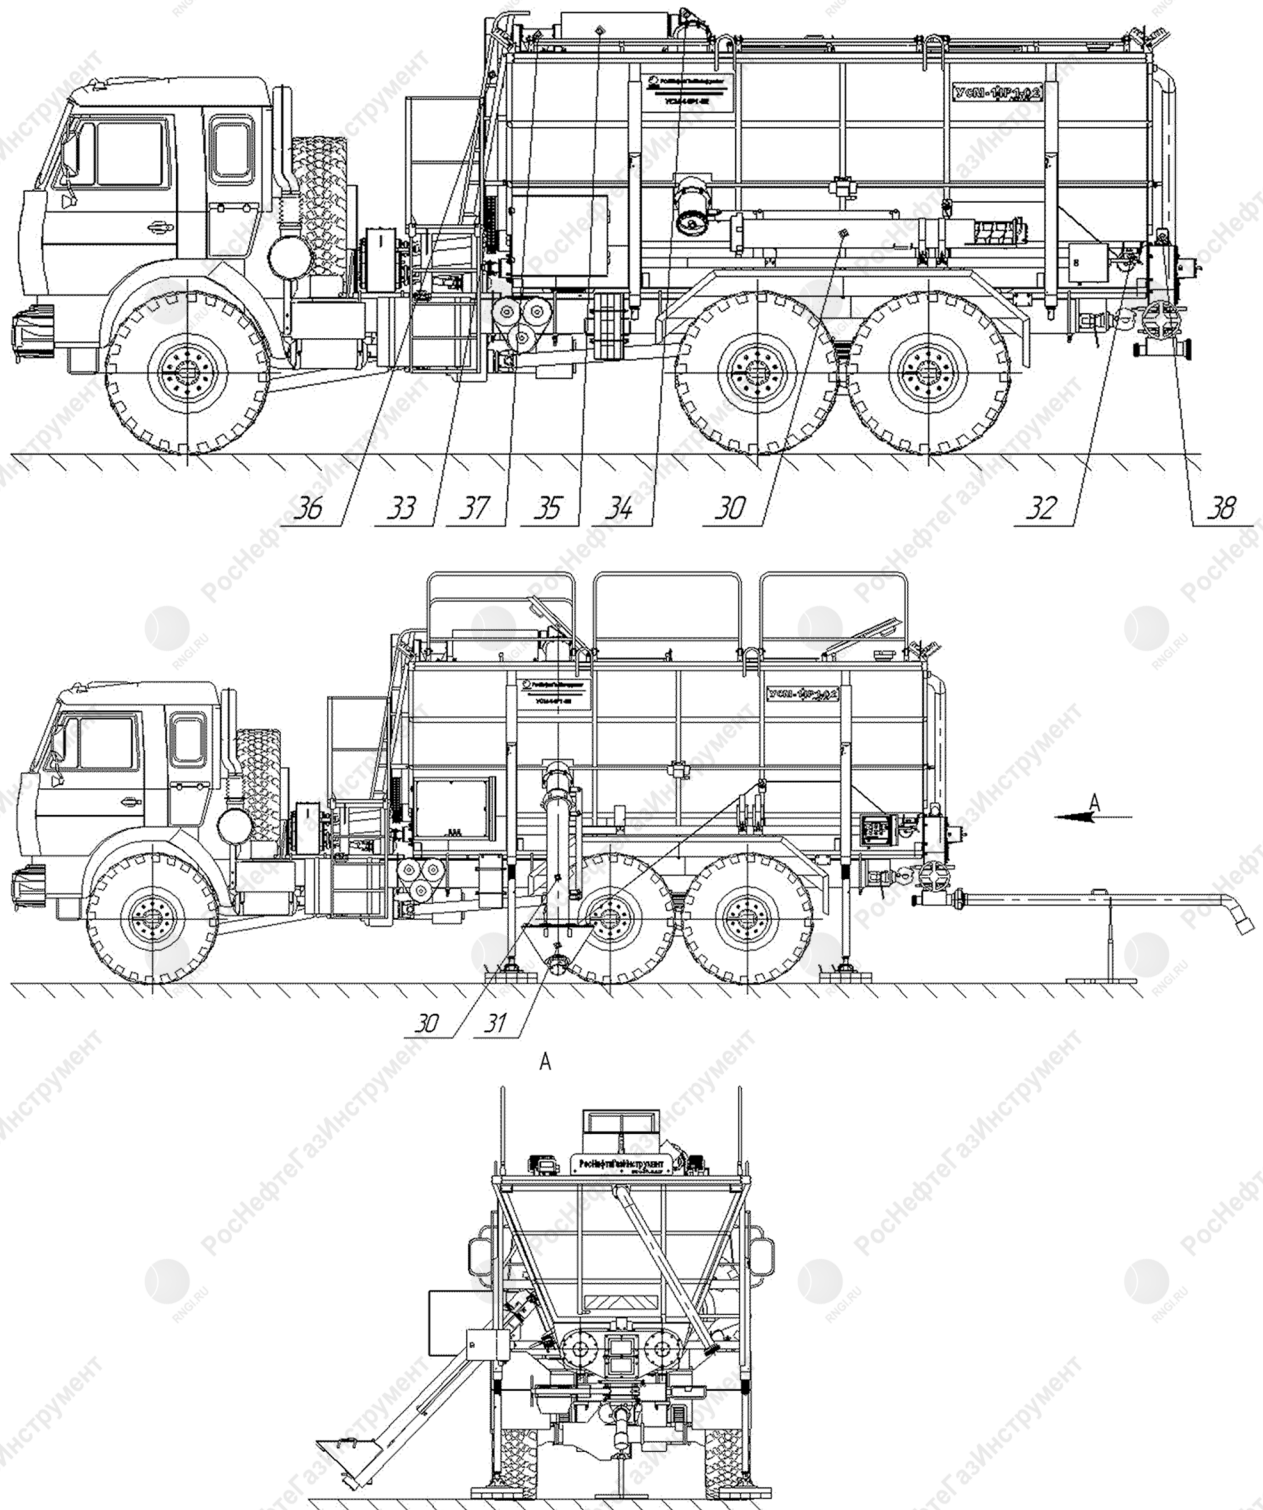

Fig. 3 - Mechanical mixing plant USM-14R1.
\*\* The loading auger (30) (Fig.3) serves for feeding the dry backfill to the hopper, is supplied complete with a removable feed hopper (31). The lowering, lifting of the folding part of the loading auger is carried out using a hand winch (32). The loading auger is controlled (turning on and off, speed control) via the remote control (20). The drive is carried out from KOM (11) of the car chassis distributing box through the cardan shafts (13) and the distributing gear unit (10), the chain drive (33), the auger drive (37) to the cardan shaft and the angular gear unit (34). Cardan shaft on the hopper roof, the chain are covered with casings (35 and 36).